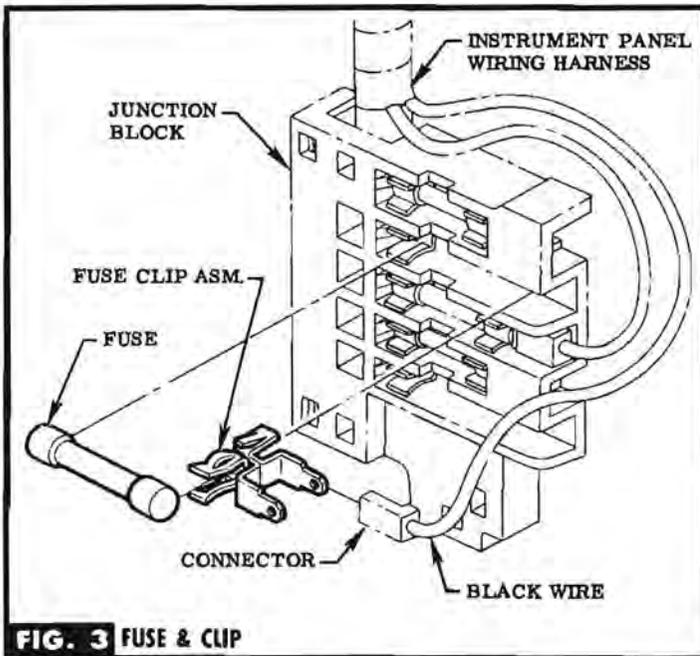

FIG. 3 FUSE & CLIP
TEMPLATE LOCATE, CENTER PUNCH & DRILL REMAINING HOLES. SEE FIG. 3.
STEP 14 INSTALL ALL SILL ASSEMBLIES WITH ATTACHING PARTS PROVIDED. SEE FIG. 3.
STEP 15 ON 1254 MODELS ONLY, REMOVE EXISTING SCREWS ON R.H. SIDE PANEL & INSTALL BRACKETS PROVIDED WITH EXISTING SCREWS. SEE FIG. 3 & VIEW D.
STEP 9 PRESS FUSE CLIP ASM. INTO RECEPTACLE ON JUNCTION BLOCK MARKED "RADIO" UNTIL LOCKED IN PLACE, THEN INSERT FUSE INTO CLIPS. SEE FIG. 3.
STEP 10 PLUG CONNECTOR OF EXISTING HARNESS, OR ACCESSORY HARNESS IF USED, INTO JUNCTION BLOCK SLOT. SEE FIG. 3.
STEP 16 (R. H. SPOTLAMP) PLUG CONNECTOR INTO CLIP & BLADE & INSERT FUSE. SEE FIG. 3. **NOTE:** If receptacle is occupied remove & plug into jumper wire.